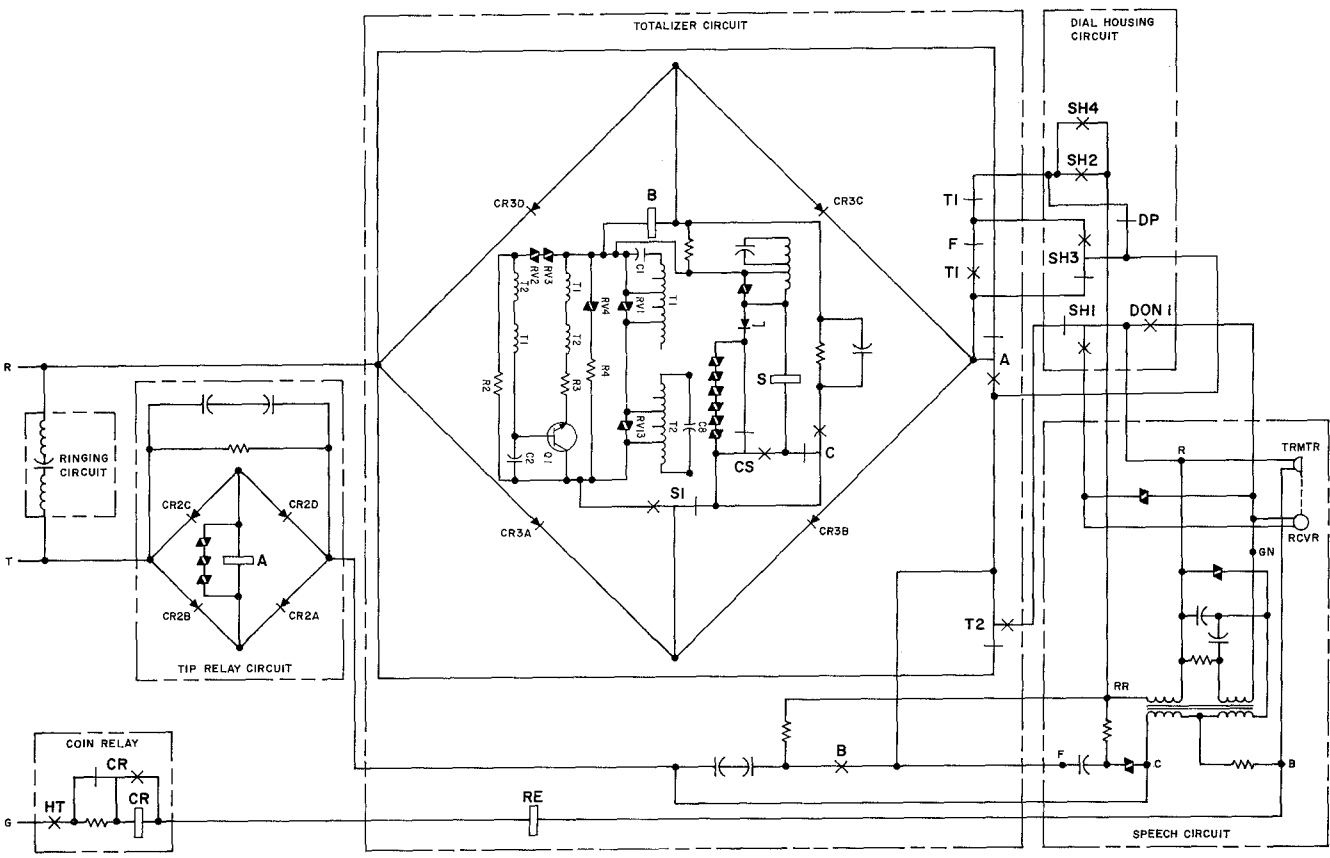

Fig. 11—1C1/2C1 Coin Telephone Set—Schematic (CF Mode)
**2.23 Tip Relay Circuit (Used in CF only) (Fig. 11 and 12).**
### **COIN FIRST SERVICE (Fig. 11 and 12)**